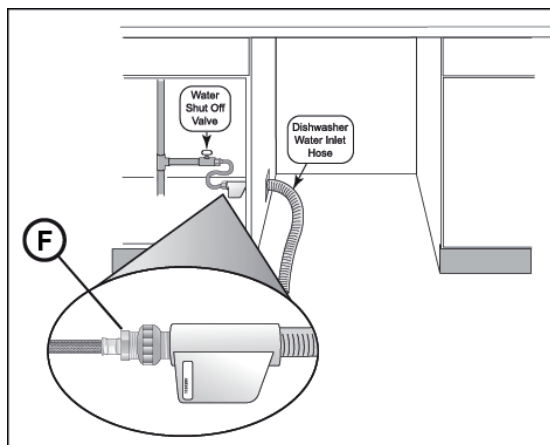

Figure 8
Install an easily accessible shut-off valve (not supplied) in the hot water supply line, as shown in **Figure 8**. All solder connections must be made before the water line is connected to the dishwasher.
*NOTE: The end of the dishwasher water inlet hose is heavy and will need to be supported. It is best to lay the end on the cabinet floor as shown in **Figure 8**.*